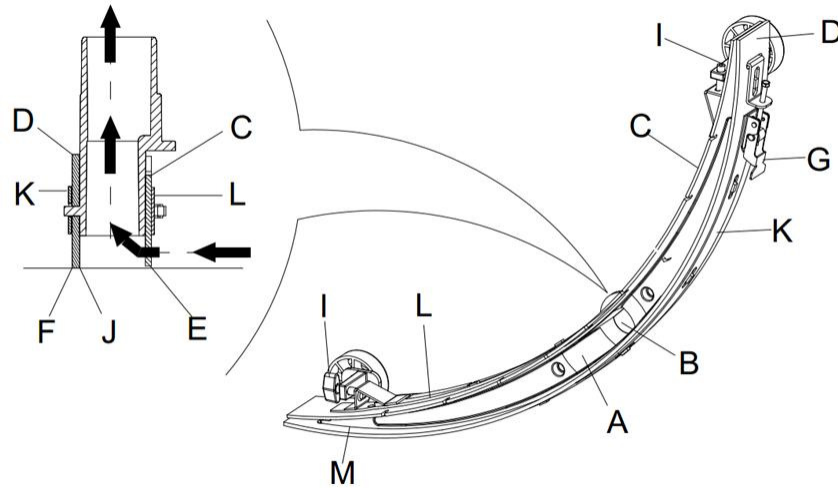

Figure 15
- Press the power switch (41) to the “O” position to turn off the machine.
- Unscrew the fixed handle (16) of the squeegee; take off the connector connecting the Recovery Vacuum tube of the squeegee, and take off the squeegee.
- Use the squeegee lifting handle (14) to lift the squeegee support frame.
- Clean the squeegee (**Figure 15**). Clean in particular the groove (**A, Figure 15**) and the dirt and fragments on the Vacuum tube. Check if the front squeegee blade (**C**) and the rear squeegee blade (**D**) are intact, and if there are broken edges and cracks. Change them if necessary (refer to the steps in the following section).
- Following the methods related in the previous section clean the squeegee (**Figure 15**)
- Check the edge (**E, Figure 15**) of the front squeegee blade and the edge (**F**) of the rear squeegee blade (**D**). On the whole length, they should be on the same level. Otherwise, adjust their heights through the following procedure.